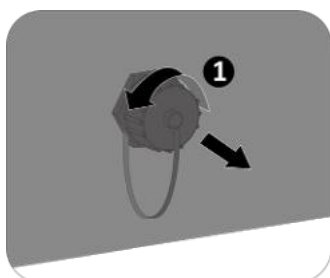

Fig. 30. Remove the cap
1. Remove the cap on the COM1 connector (see Fig. 30).